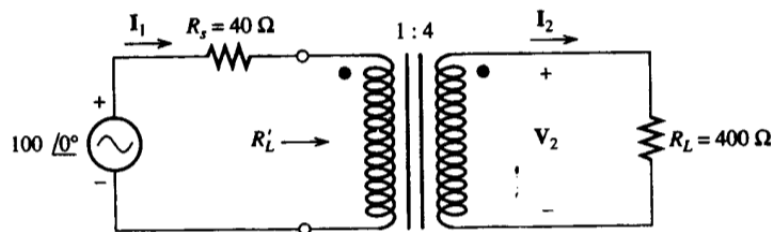

Figure 1.
2. To achieve maximum power transfer from a source with an internal resistance of R_s , we want the effective load resistance R'_L to equal R_s . Find the turns ratio that would result in maximum power delivered to the load in Figure 1. [$\frac{N_1}{N_2} = \frac{1}{\sqrt{10}}$]